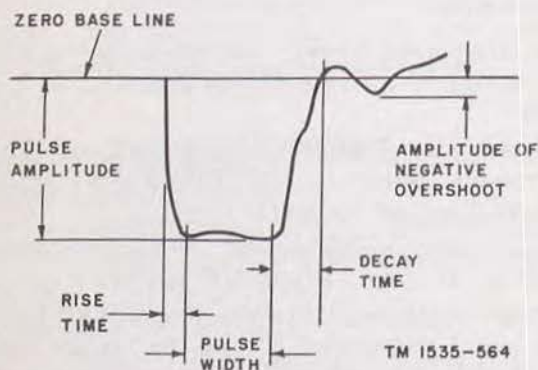

Figure 124. Magnetron output, wave form.
m. Measure the rise time (fig. 124) by counting markers. Use the reference line to interpolate between markers. The rise time should be between .1 and .2 microsecond.